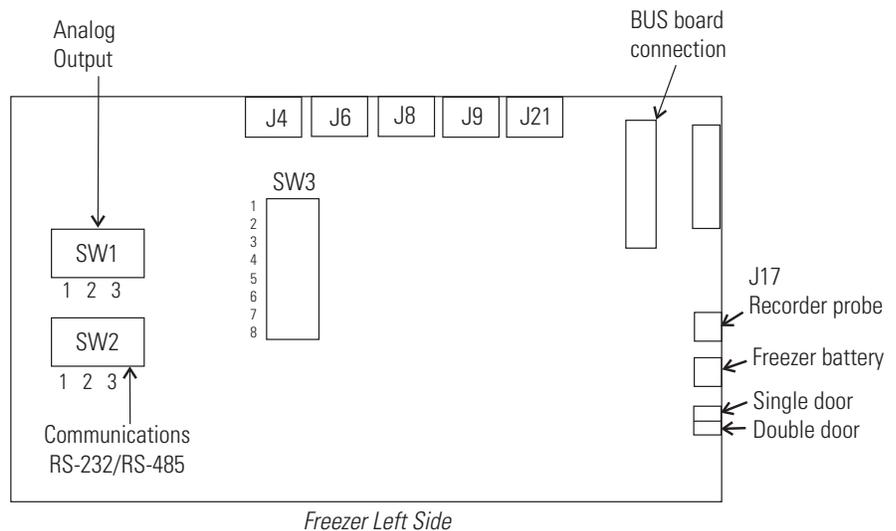

Figure 3. Microboard
- Remove the top three screws securing the left (facing the freezer) side panel. Loosen the bottom three screws to obtain access to the micro board. The micro board (Figure 3) is located on the left, near the back of the freezer base.